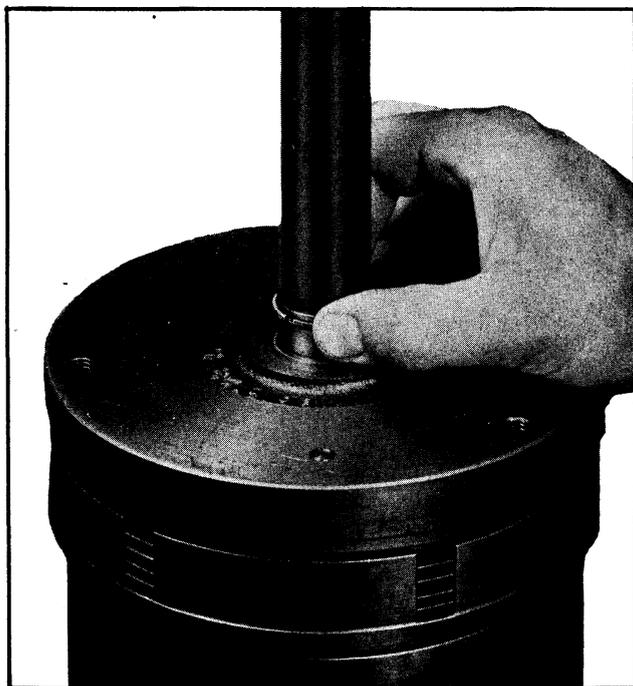

Fig. 3-85 Installing Lock Type Oil Ring
31. Install lock type oil ring on the intermediate shaft. (See Fig. 3-85)